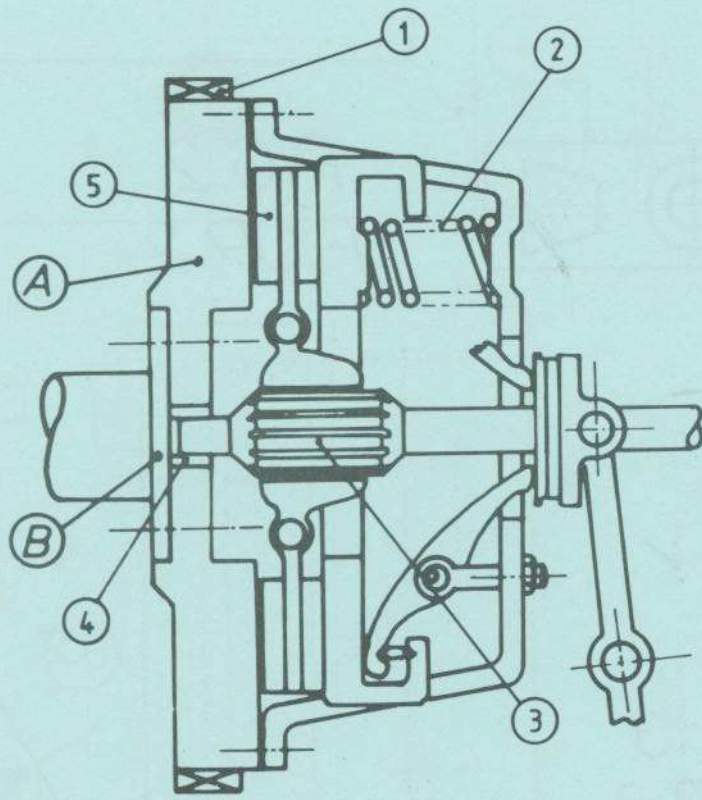

FIG. 5. FÍOR 5.
- (b) (i) Identify the clutch type in Figure 5.